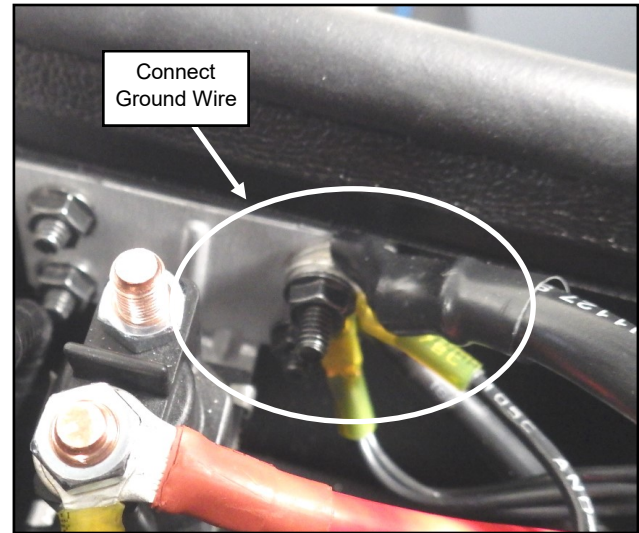

Fig. 1.5 (Connect ground to A/C Unit)
- 1.5 Remove the nut securing the ground wires to the solenoid mounting plate. Next, install the Power Supply Wire Harness' black ground wire onto the bolt, re-install the nut and then tighten as shown in fig. 1.5.